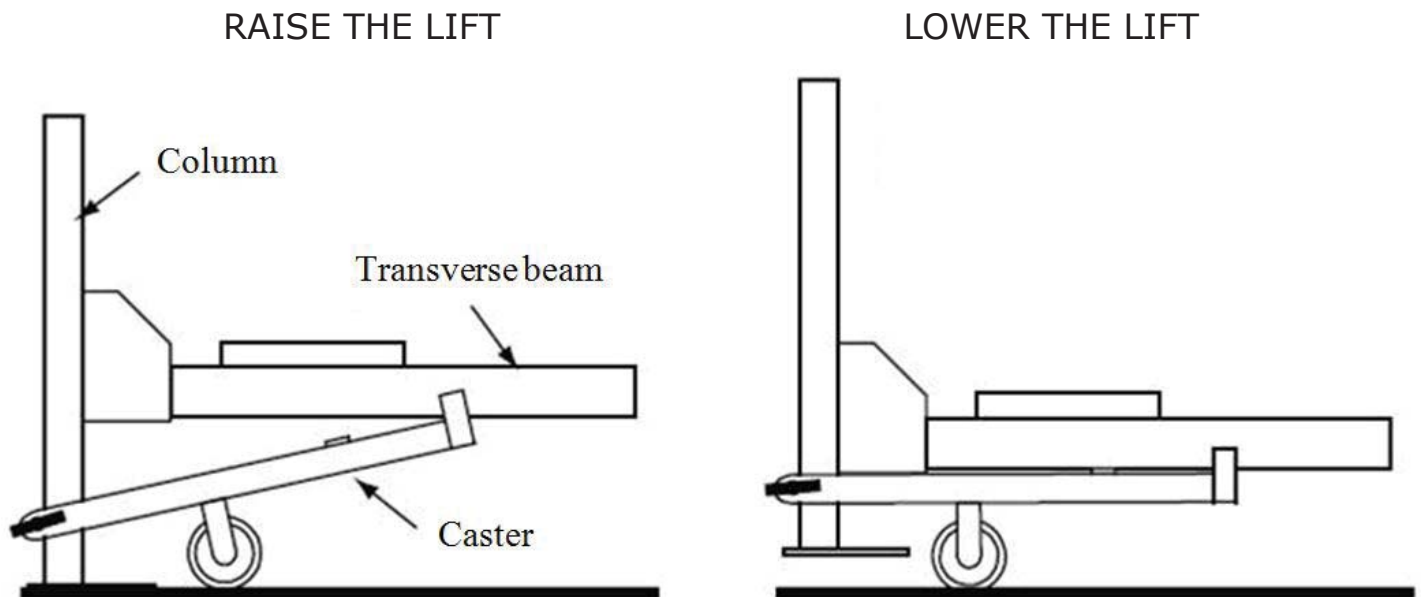

Figure 22 – How To Use Caster Kit
8.2 Moving With Caster Kit (Ref. Fig. 22, If Available)